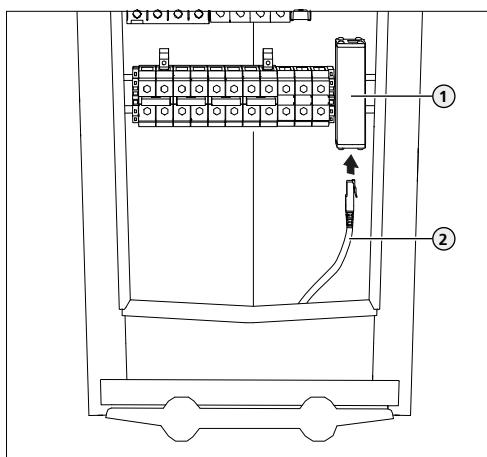

Fig. 17: Tilkobling Ethernet
- ➔ "Fig. 17: Tilkobling Ethernet"